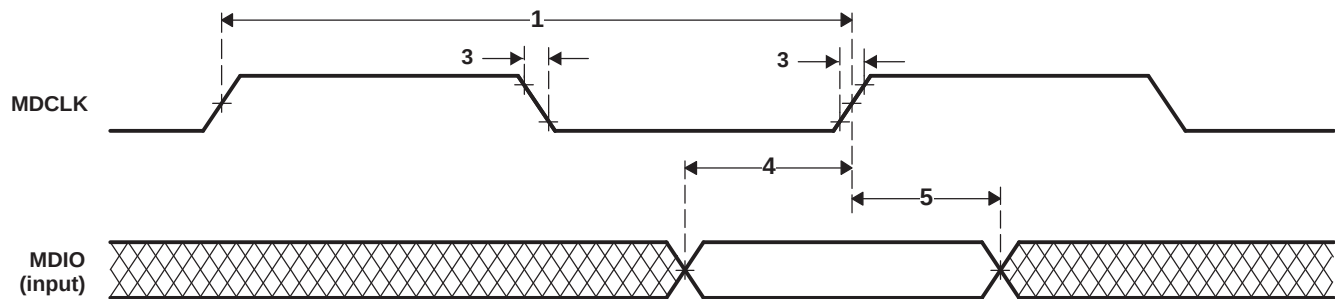
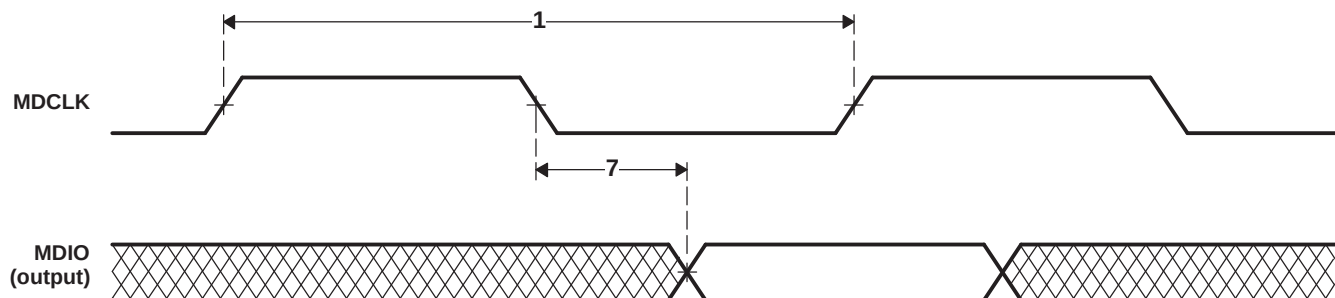

**Figure 6-72. MDIO Input Timing**
**Figure 6-73. MDIO Output Timing**
**Table 6-99. Timing Requirements for MDIO Input (see Figure 6-72 and Figure 6-73)**
**Table 6-100. Switching Characteristics Over Recommended Operating Conditions for MDIO Output (see Figure 6-73)**